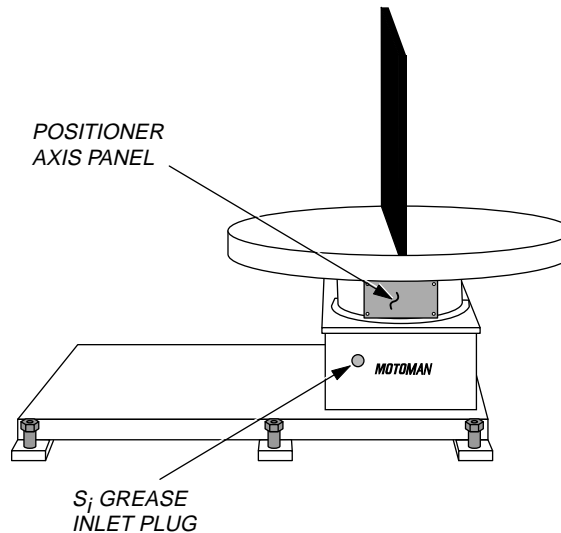

Figure 6-1 ArcWorld III-1000 (MR1500S) Positioner
1. Remove positioner axis panel and Si grease inlet plug (see Figure 6-1) to gain access to Si grease nipple (Zerk).
1. Remove positioner axis panel and S_i grease inlet plug (see Figure 6-1) to gain access to S_i grease nipple (Zerk).